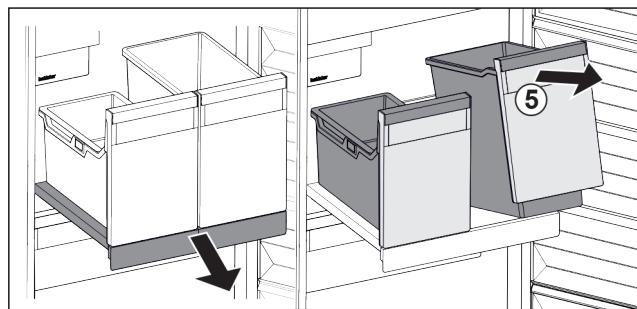

Fig. 94
- Lift the container *Fig. 94 (5)* at the front.